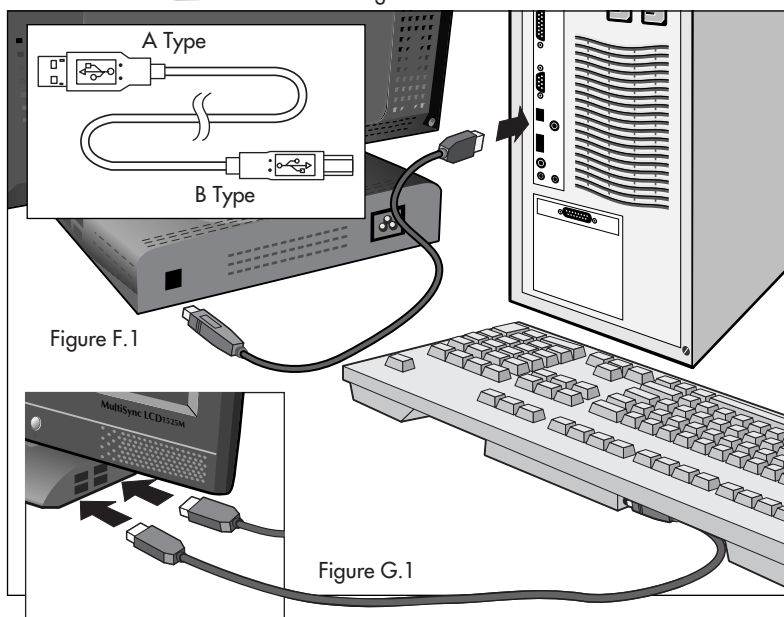
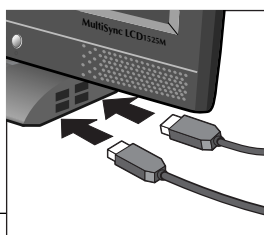

Figure F.1
Figure G.1
6. Using the USB cable, connect the B type connector to the USB upstream port on the back of the monitor and A type connector to the downstream part on the computer (**Figure F.1**). If you are using the cord from the USB device, use one of the downstream port on the side of the monitor (**Figure G.1**).